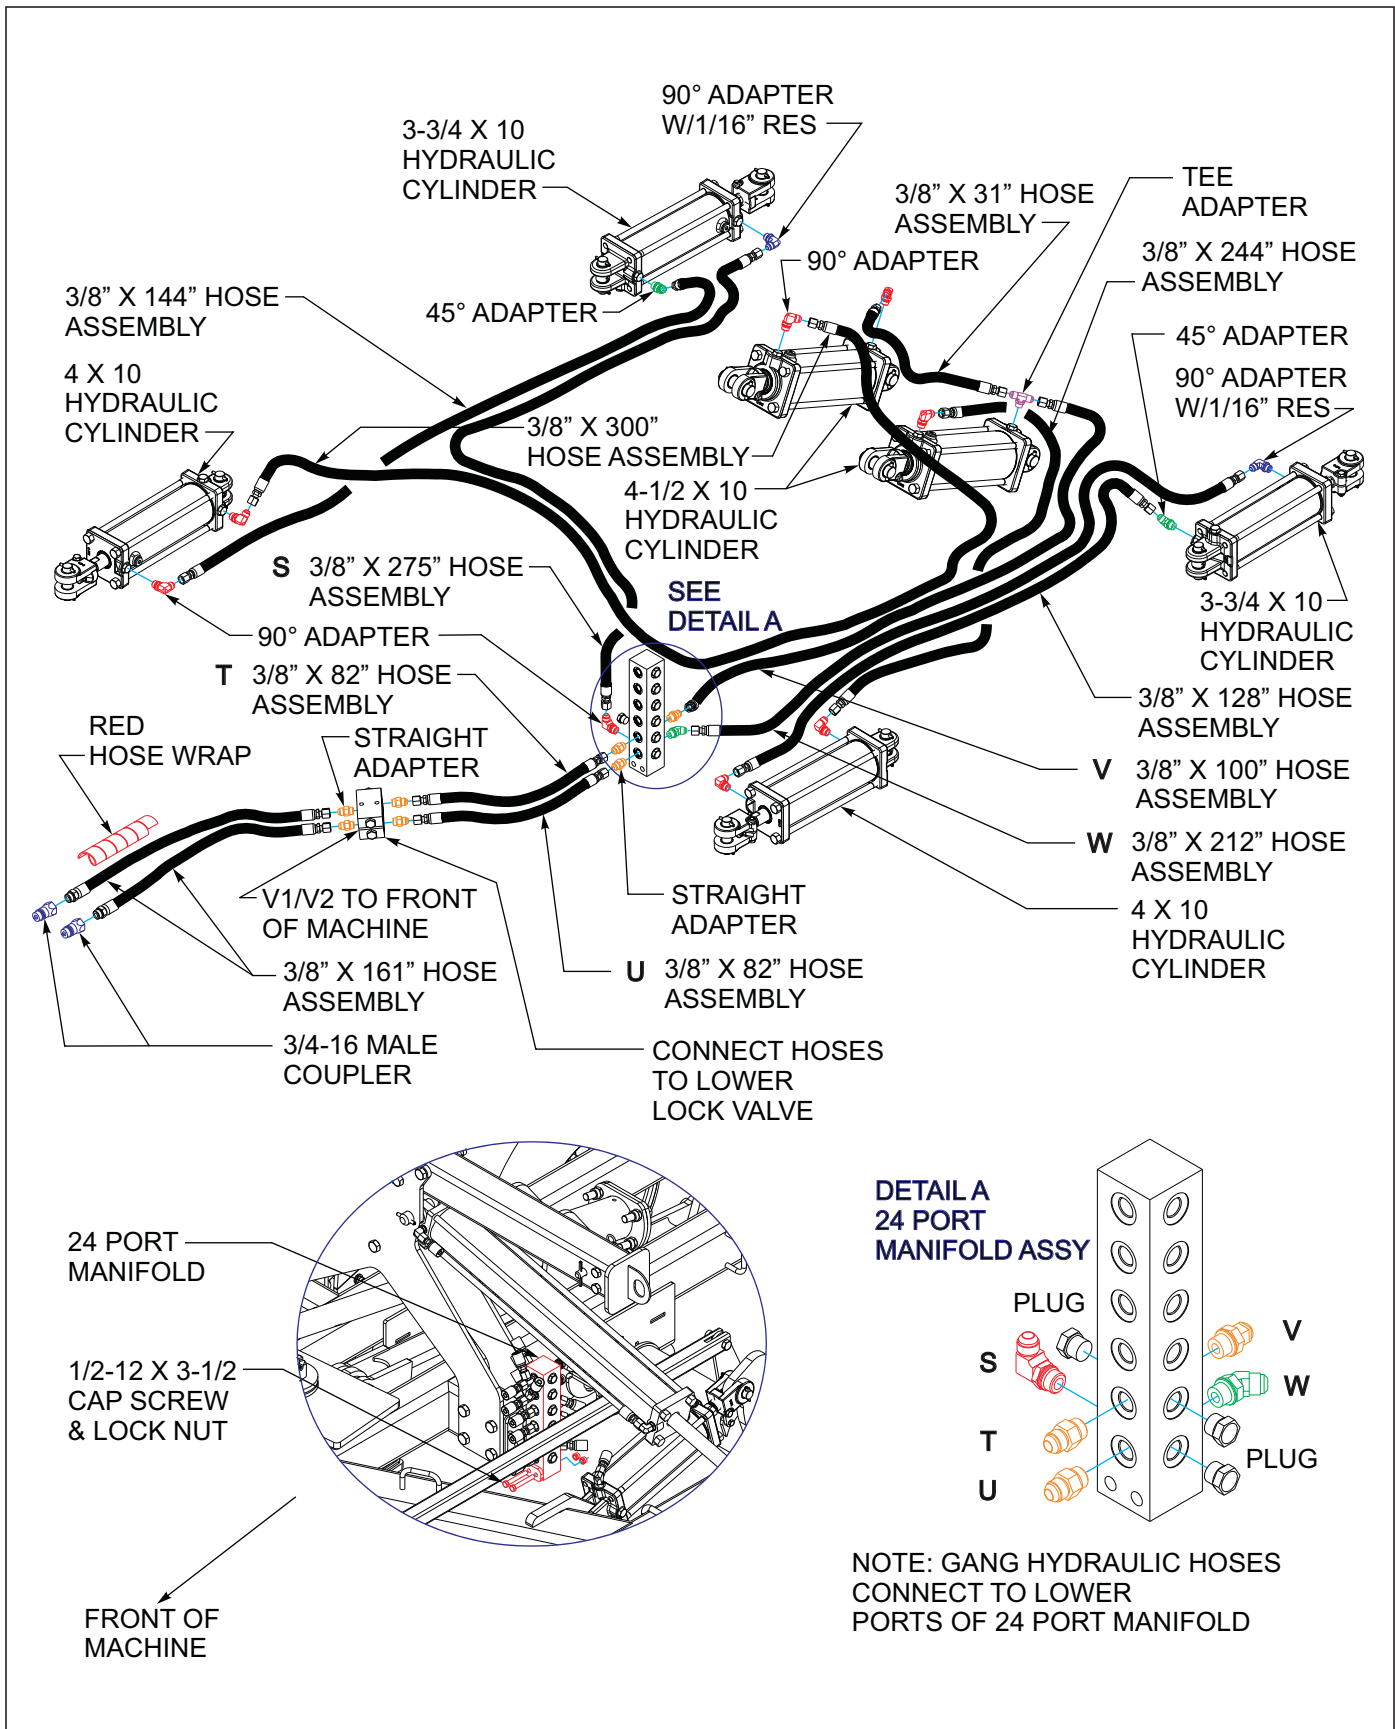
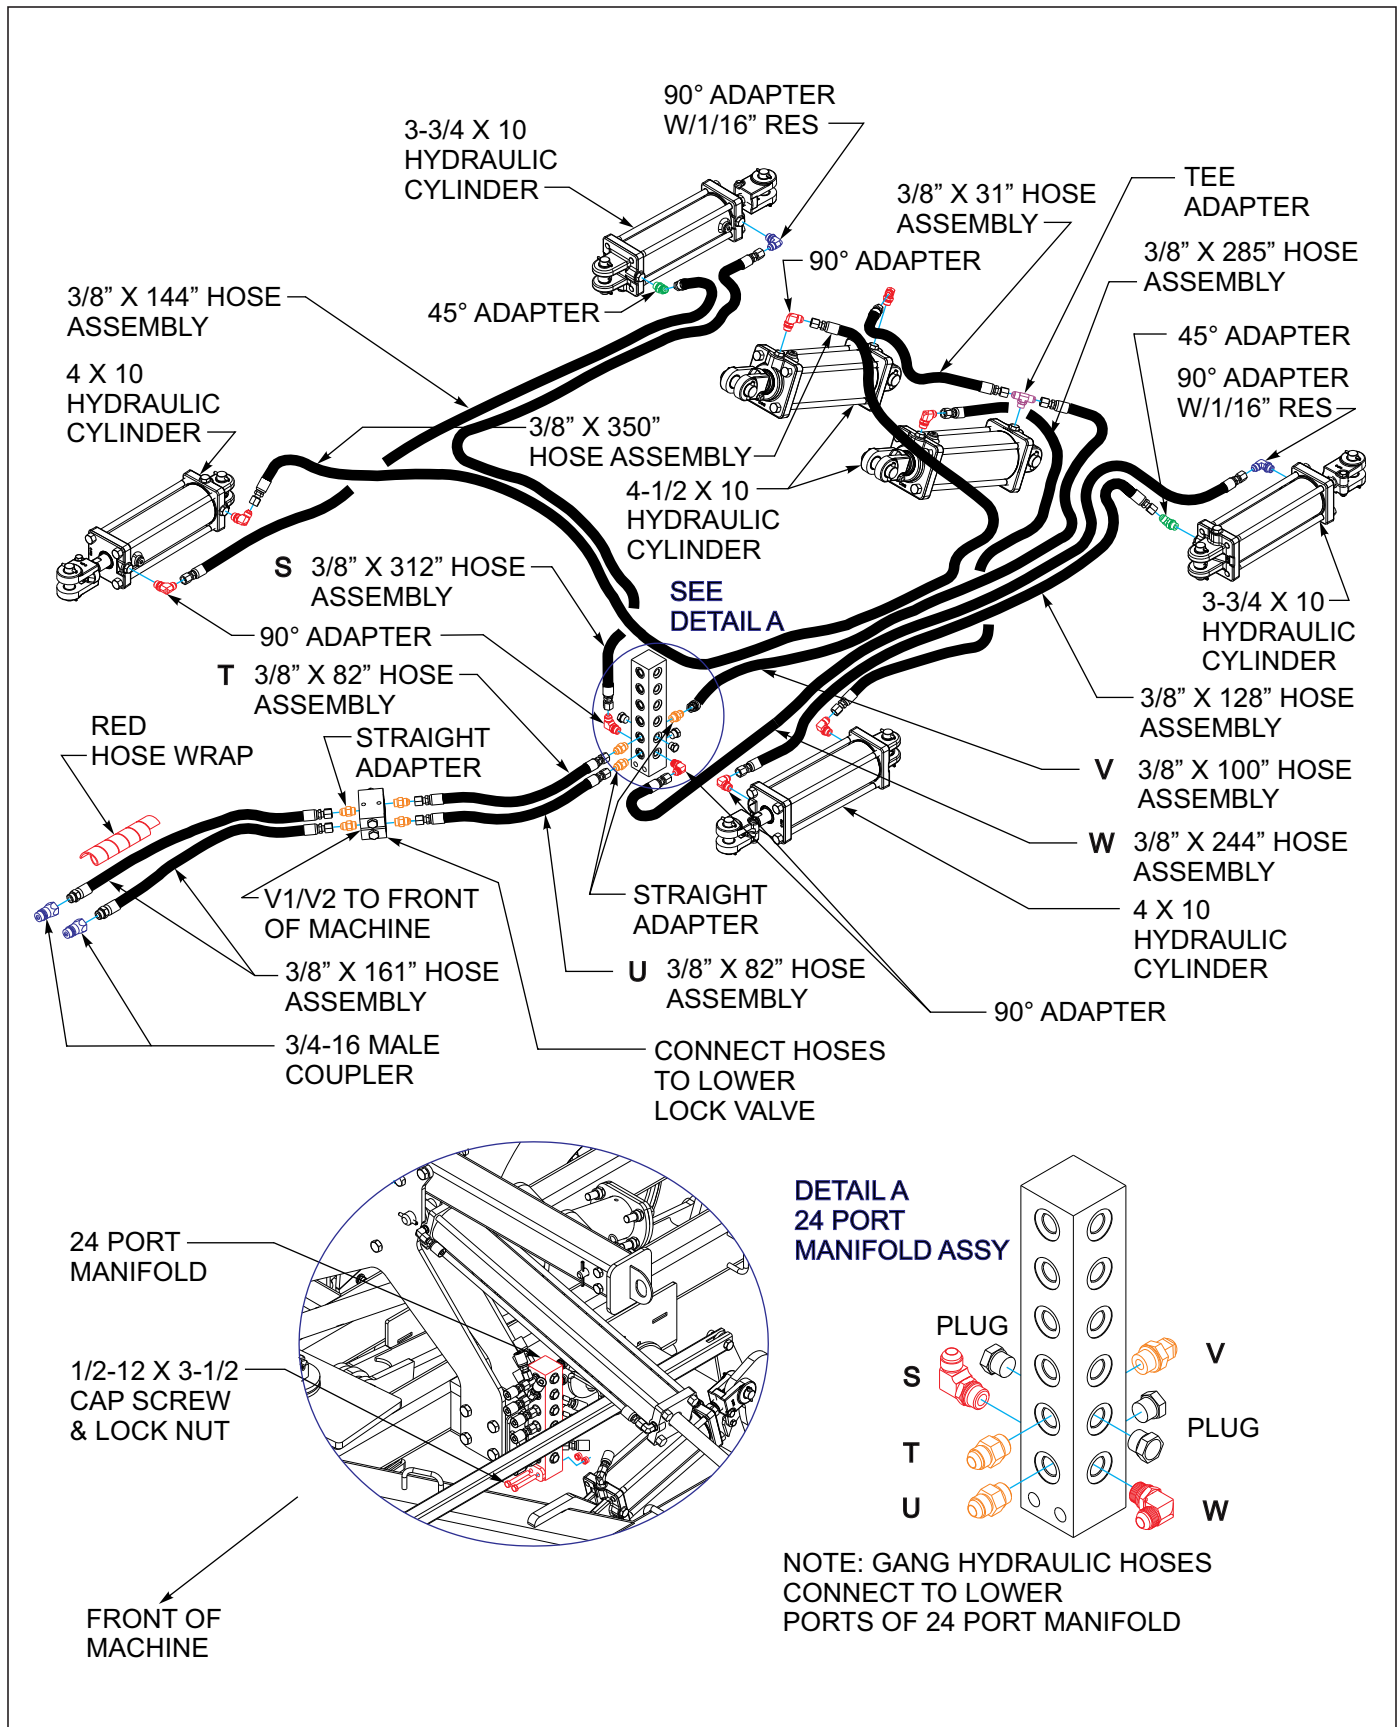

Figure 3-31: Gang Hydraulic Installation 7530-29'
Figure 3-32: Gang Hydraulic Installation 7530-32'/35'
3. The disc gang angle cylinders (**See Figure 3-30. 7530-26', See Figure 3-31. 7530-29' and See Figure 3-32. 7530-32'/35'**) use the following fittings: The left master base end on the center frame requires a tee fitting and the rest of the ports on the center frame cylinders are regular 90 degree fittings. Both front wing gang cylinders require regular 90 degree fittings on both ends. Both rear wing gang cylinders have a 45 degree fitting on the base end and a black 90 degree 1/16 restrictor fitting on the rod end.